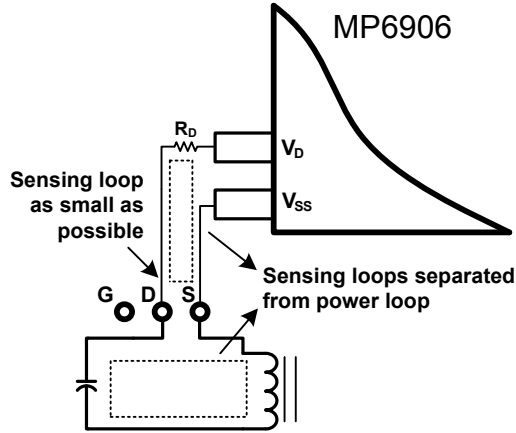
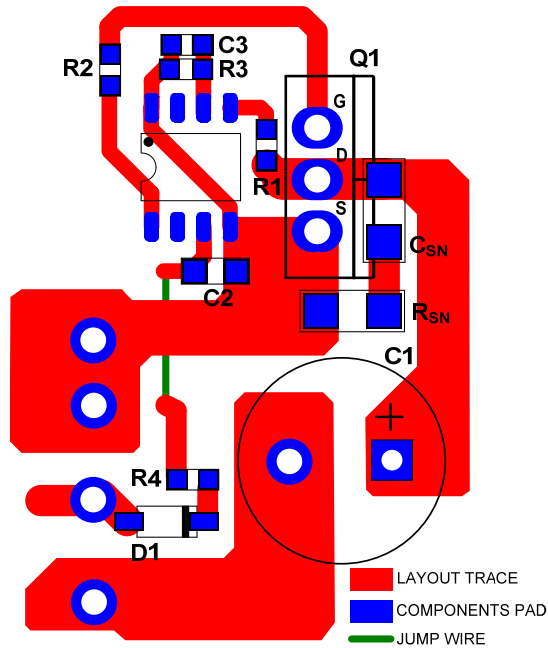

Figure 17: Voltage Sensing for V_d/V_{ss} on MP690
Figure 18: Layout Example with TO220 package SR FET
Efficient PCB layout is critical for optimal operation. For best results, refer to Figure 17, Figure 18, and Figure 19 and follow the guidelines below:
- 3.) Keep the IC out of the power loop to make sure the sensing loop and power loop do not interrupt each other (see Figure 17).
Figure 18 shows a layout example of a single layer with a through-hole transformer and a TO220 package SR FET . R_{SN} and C_{SN} are the RC snubber network for the SR FET.